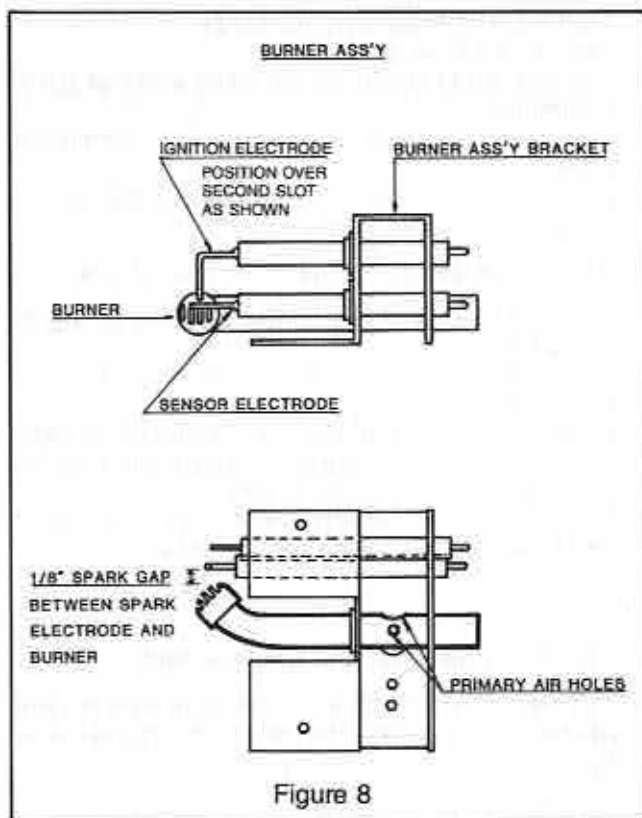

Figure 8
2. Study the exploded view of the orifice assembly, Figure 7 and of the burner, Figure 8.
**NOTE:** Always check spark gap after removing or replacing ignition electrode. See Figure 8.